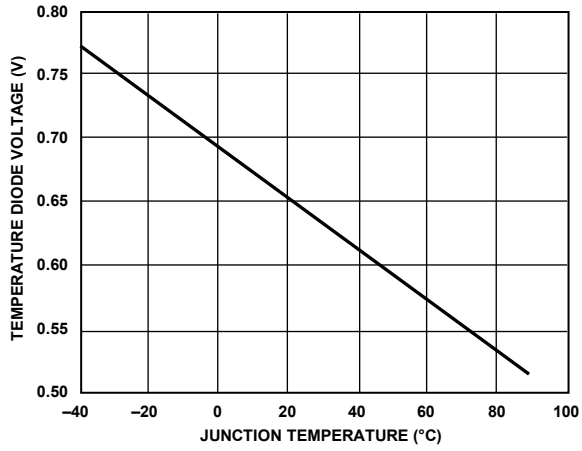

Figure 61. Typical Voltage Response of 1× Temperature Diode
4. Set Register 0x18E6 to 0x01 to turn on voltage export of the central 1× temperature diode. The typical voltage response of the temperature diode is shown in Figure 61. Even though this voltage does represent the die temperature, it is recommended to take measurements from a pair of diodes for improved accuracy. The following step explains how to enable the 20× diode.